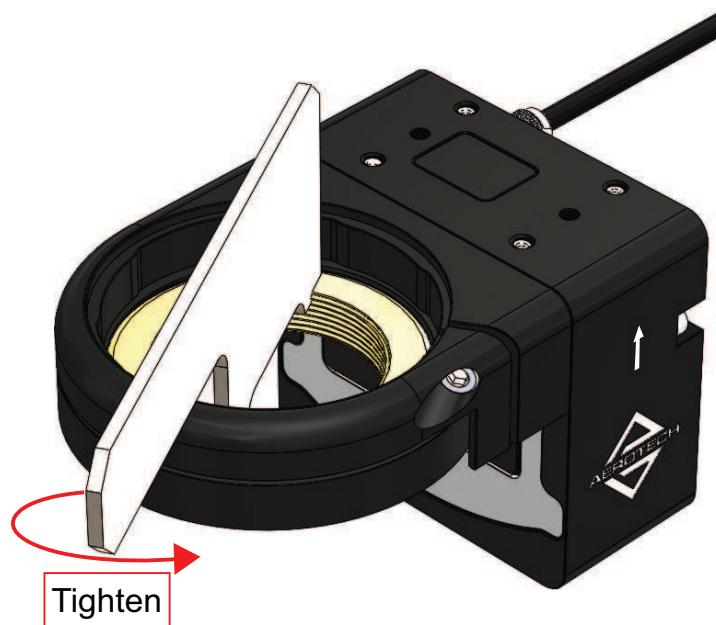

Figure 2-4: Installation of Objective Adapter into the Objective Bracket
Step 2: Thread the objective adapter into the objective bracket. Tighten the adapter by inserting the adapter wrench teeth into the adapter slots and tighten in the direction shown in Figure 2-4. The adapter should be firmly tightened but not over-tightened as possible damage to the adapter or stage could occur.